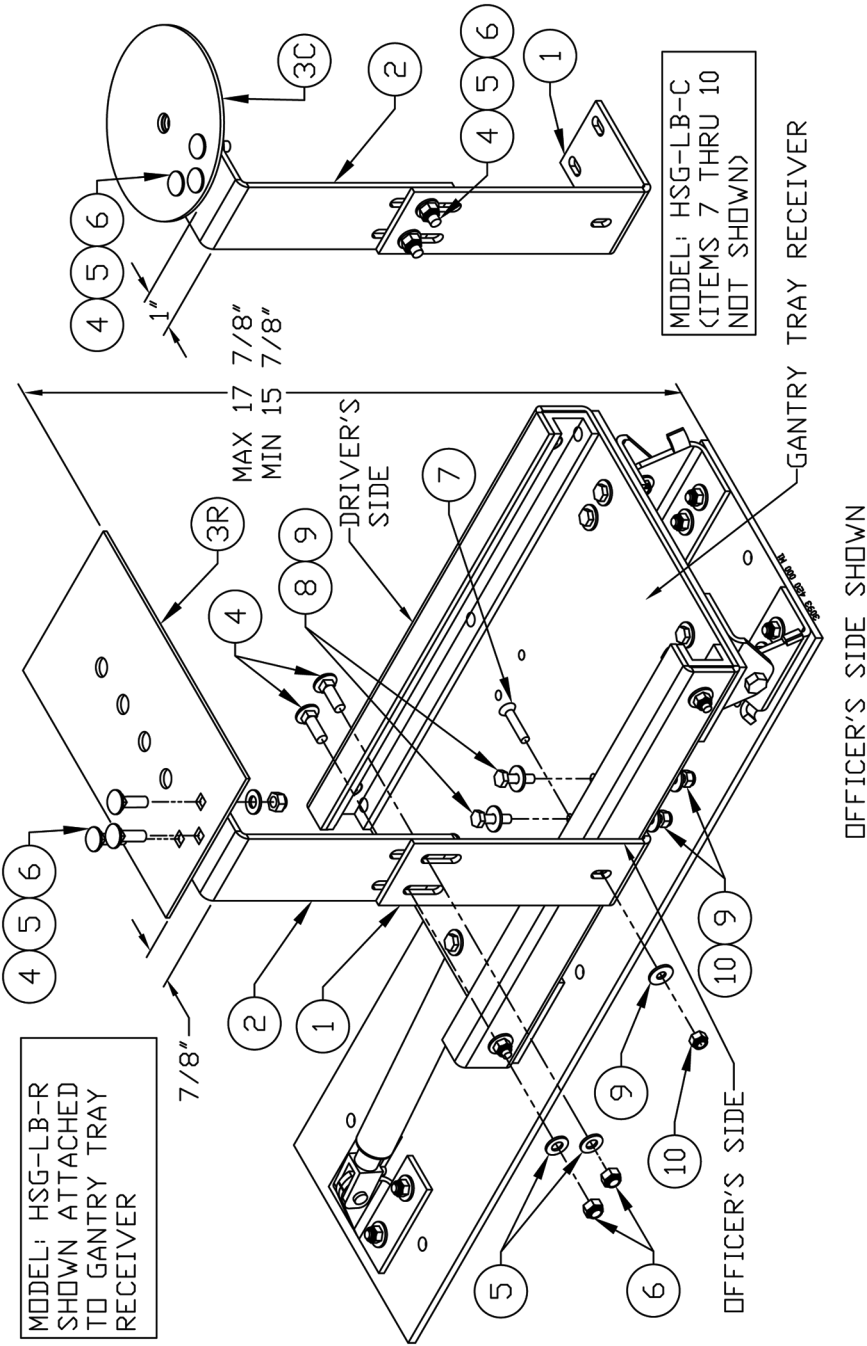

Figure 11
Note: If installing an optional Light Bracket, see Pages 10 & 11 before beginning Gantry mounting. Keep in mind that Light Bracket will require additional wiring. To prepare installation of Light Bracket to Gantry, remove the fastener in the center of the Gantry Tray Receiver on either the Officer or Driver's side (Figure 11) and fasten Light Bracket Bottom onto Gantry Tray Receiver. The remainder of the Light Bracket assembly will be added later in the process.
1. Complete assembly of the Light Bracket components (Figure 11) and wire the light as per light manufacturer's recommendations.